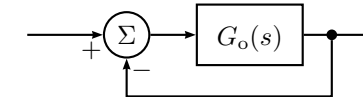

Figure 3.5a
- Draw a root locus with respect to K for the system in Figure 3.5a with $G_o(s)$ given below. For which values of K are the systems stable? What conclusions on the principal shape of the step response can be drawn from the root locus?